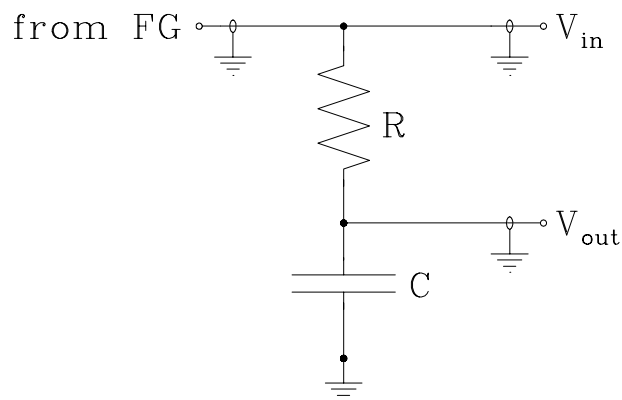

Figure 4.3: Transients measurement setup
Often, the time constant, $\tau = RC$, of the transient is so short that it is impossible to move a mechanical switch, or to measure the voltage using a voltmeter, fast enough to see the exponential decay. Instead, one can use a square-wave output of a function generator (FG) and an oscilloscope, to monitor both V_{in} and V_{out} , as in Figure 4.3. **Note** that in the above circuit, all the BNC ground connections are already made by the protoboard; only the capacitor needs to be grounded.
- ⓘ Construct the circuit of Figure 4.3 with $R = 10\text{ k}\Omega$ and $C = 0.01\mu\text{F}$, using the proper breadboarding technique. Drive it with a 1 KHz square wave of 5 Vpp (peak-to-peak). Adjust the DC offset voltage on the FG so that the signal toggles between 0 V and 5 V. Obtain a stable trace and record a graph of the voltage as a function of time on both channels of the scope, for one full period of the square wave.